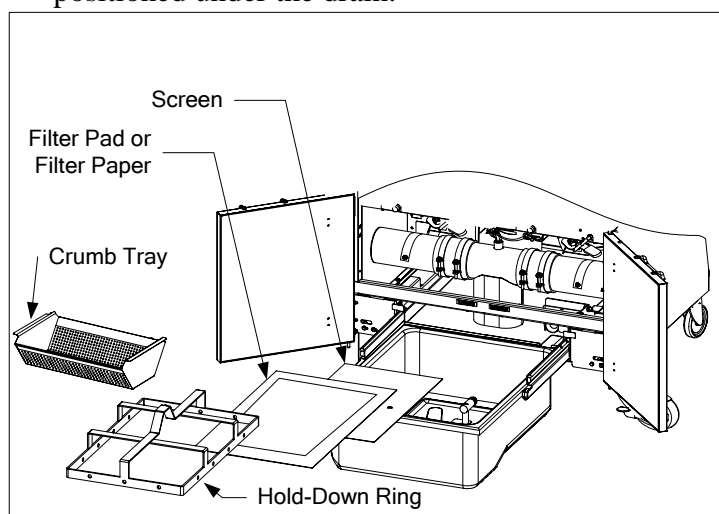

Figure 1
1. Pull the filter pan out from the cabinet and remove the crumb tray, hold-down ring, filter pad (or paper) and filter screen. (See Figure 1) Clean all components with a solution of McDonald's All Purpose Concentrate and hot water, then dry thoroughly.
4. Reinstall the crumb tray at the front of the pan. (See Figure 1)